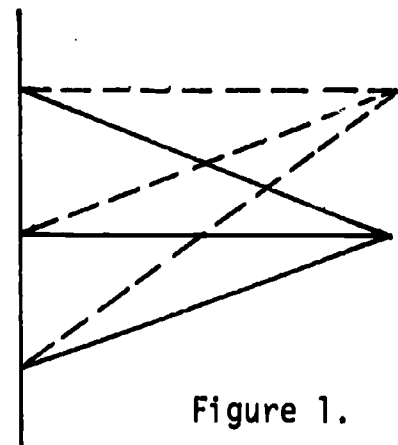

Figure 1.
2. Make a chalk mark at the new point of the dart. Draw lines from the beginning of the original dart to the new point (see Figure 1). The position of the bust dart at the underarm seamline will remain the same unless the garment has ample seam allowance which would allow this position to be relocated.